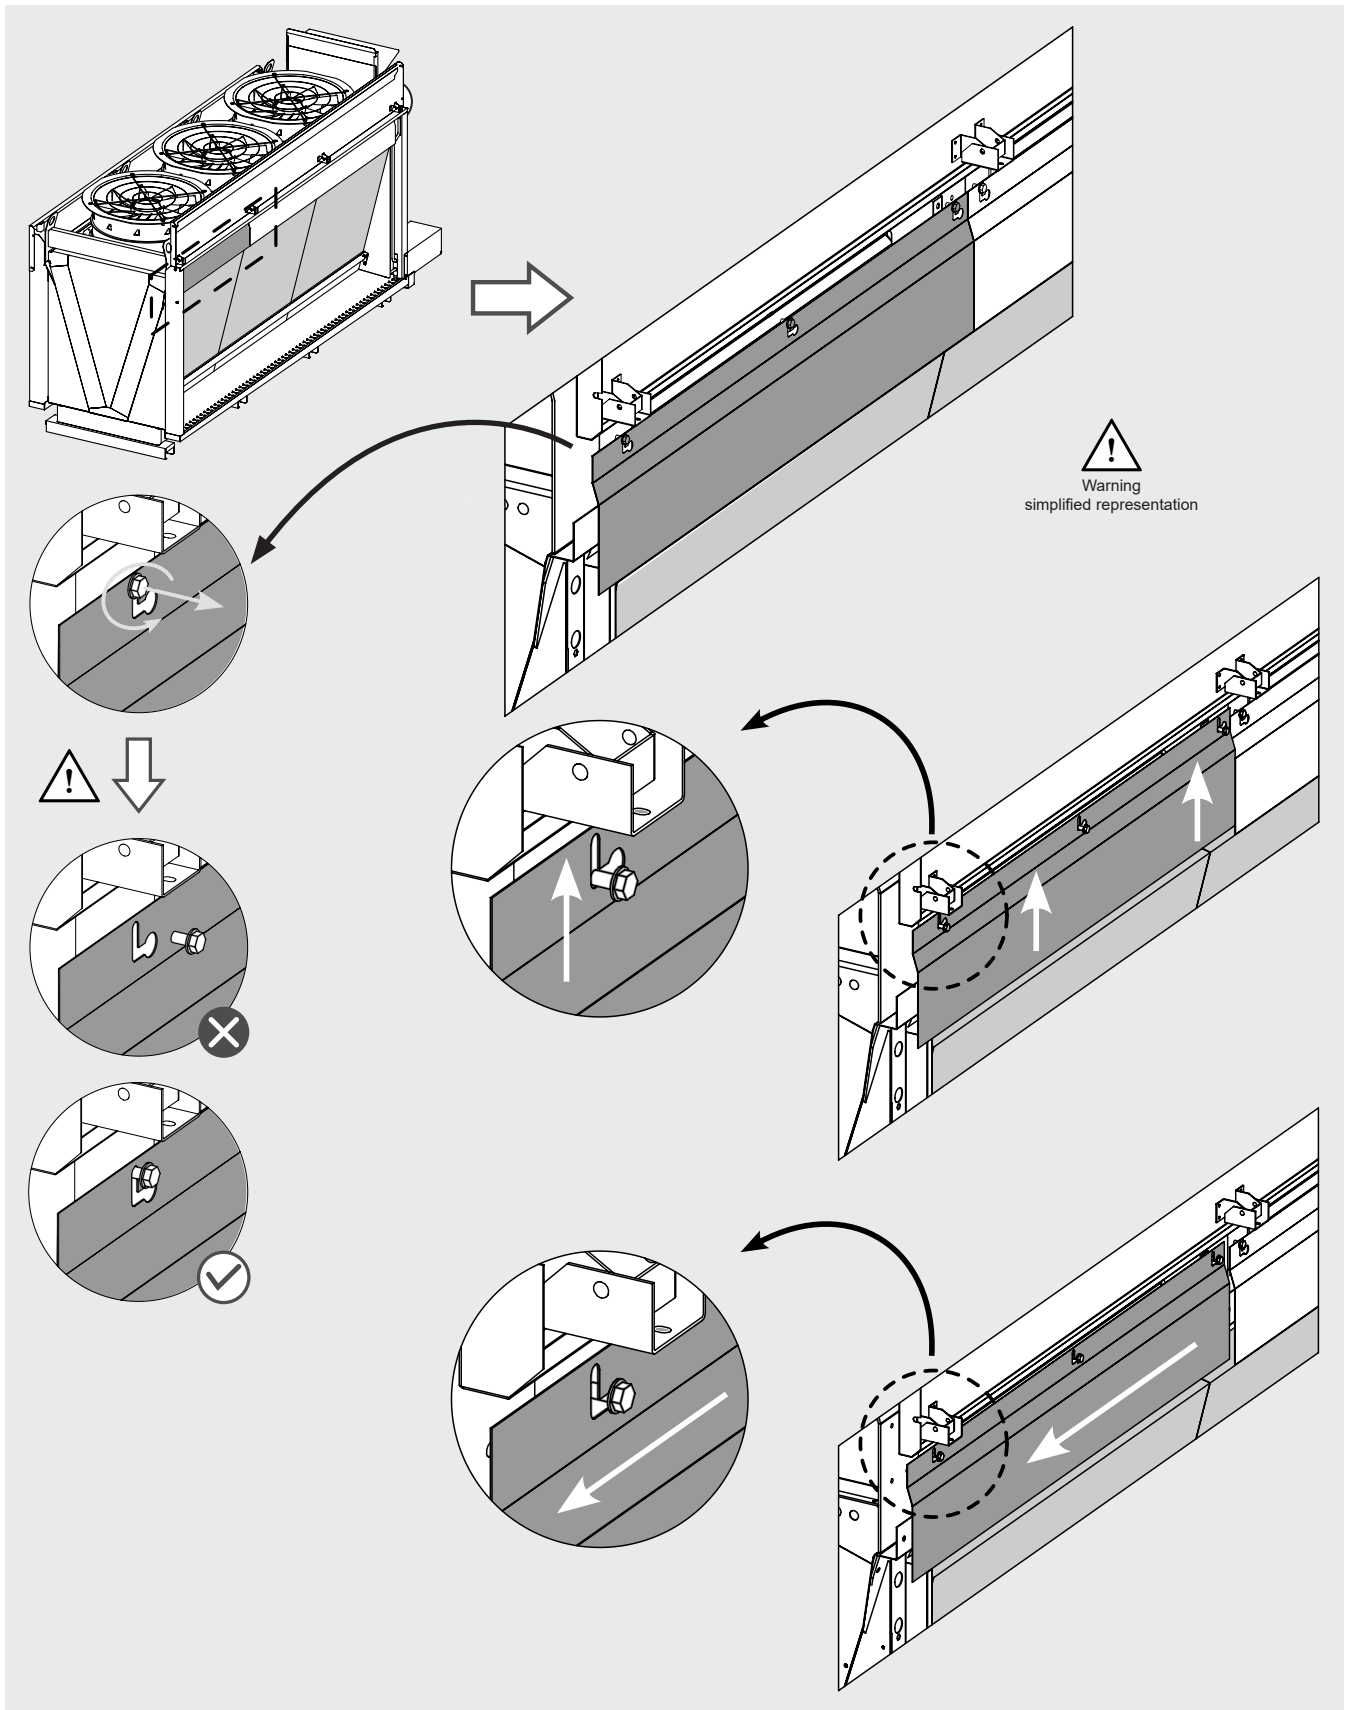

Figure 20
- 12.9.13 Loosen the screws (b) holding the cover (5) and (6) in place without removing them completely. See Figure 20.